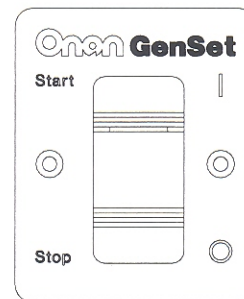

FIGURE 18. REMOTE SWITCH
- Switch/status lamp (Figure 18).